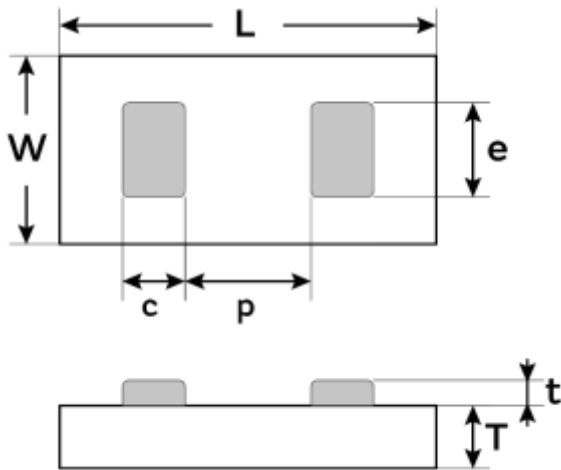

Figure 9 - Package outline drawing
(1) Other Film Frame Carrier are possible on request
(2) SAC = ENIG (0.1µm Au / 5µm Ni) + SAC305 type 6
(3) Missing capacitors can reach 0.5%
(4) Refer to Figure 9
(5) Dedicated for Pre-Production
(6) For all demands including Mass Production